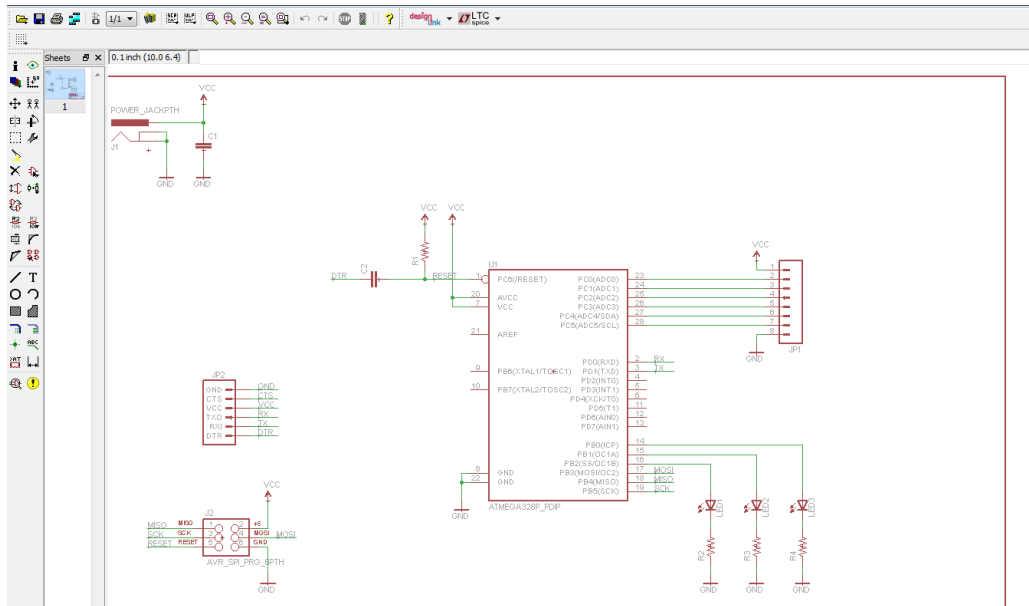

Figure 5. Eagle Schematic Capturing tool
The masks used in fabrication must be designed beforehand based on the circuit we want to implement. **The design process starts with drawing the schematic of the circuit to be implemented using a schematic capturing tool such as Eagle schematic editor (Figure 5).** The schematic is **built out of components from component libraries that come with the schematic capturing tool or created by the designer.** The components included in the library are **real components that can be purchased from component distributors** (such as mouser.com, digikey.com, ...). Every library component has few views. For designing a PCB, we will use the symbol view in the schematic capturing step.
11. Add the reset circuit that connects to the NRST pin as depicted in page 24 and in figure 5 page 10.